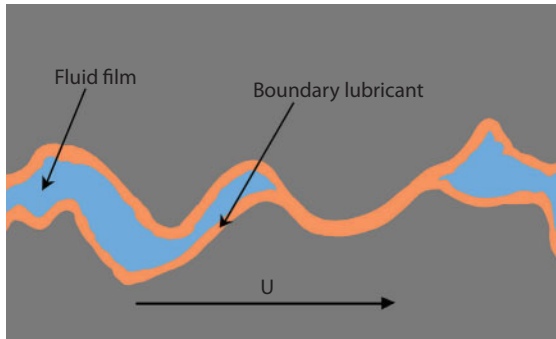

Figure 17.1 Boundary lubrication.
1. **Boundary lubrication**, where surfaces are in contact with each other even though a lubricant is present (see Figure 17.1). This is generally an undesirable operating regime for a fluid film bearing since it leads to increasing friction, energy loss, wear, and material damage. If designed properly, most machines will experience boundary lubrication only during start-ups, shutdowns, and low speed operation. Special lubricants and additives have been developed to lessen the negative effects of this regime. When constant starts and stops create boundary lubrication the life of a machine is reduced.